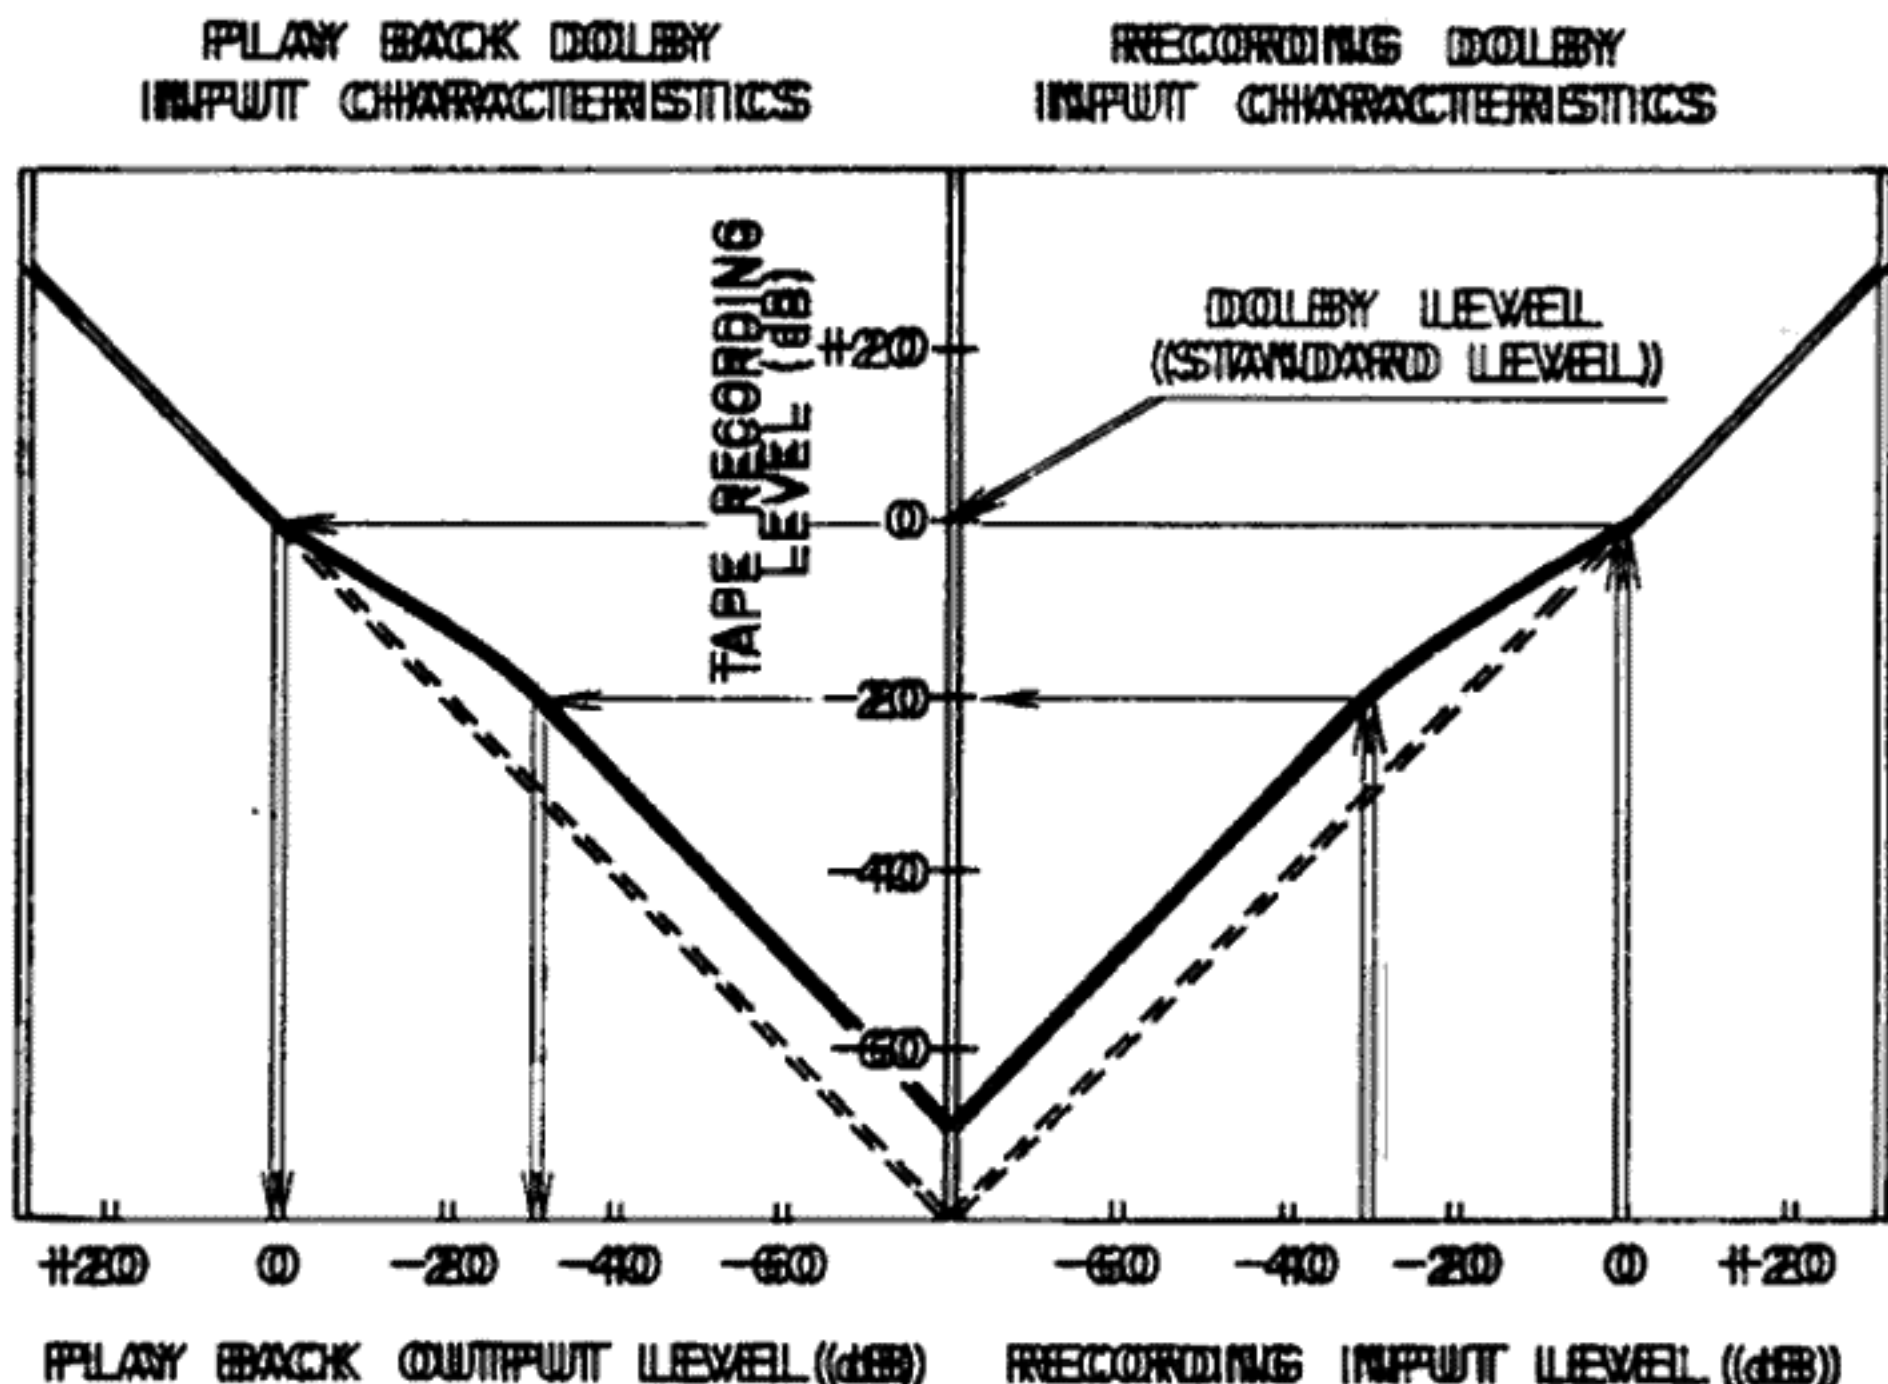

Fig. 31
- 6) At the Dolby recording circuit, output signal e_0 is recorded at a 10 dB higher level in relation to a 30 dB lower input level than the Dolby level (See Fig. 31) ((Output signal e_0 , at over 400 Hz signal, becomes 10 dB higher than the input signal)).
- 8) Because the output signal becomes $e_0 = e_1$, the relative ratio of the input and output signals become 1:1 (Fig. 31).
- 5) As shown in Fig. 31, with the Playback Dolby NR Circuit signals recorded above the Dolby level are played back at a 1:1 ratio, and signals recorded at a level of under -20 dB on the tape (Dolbyized recorded signals) are reduced by 10 dB and played back. At this time, because the noise level is also reduced by 10 dB, the S/N ratio is improved. Therefore the difference in function of Recording Dolby Circuit and Playback Dolby Circuit is in the phase relation of the signal supplied to point (b).